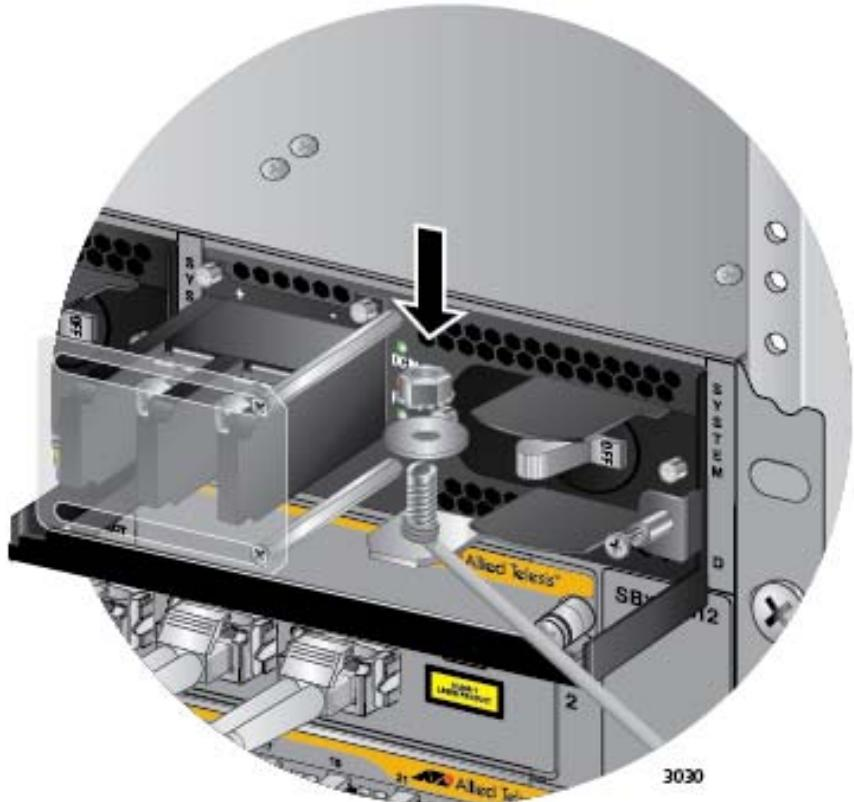

Figure 107. Securing the Bare Grounding Wire to the Grounding Post
4. Secure the wire with the nut and washer removed in step 2, and an 8 mm wrench, as shown in Figure 107.